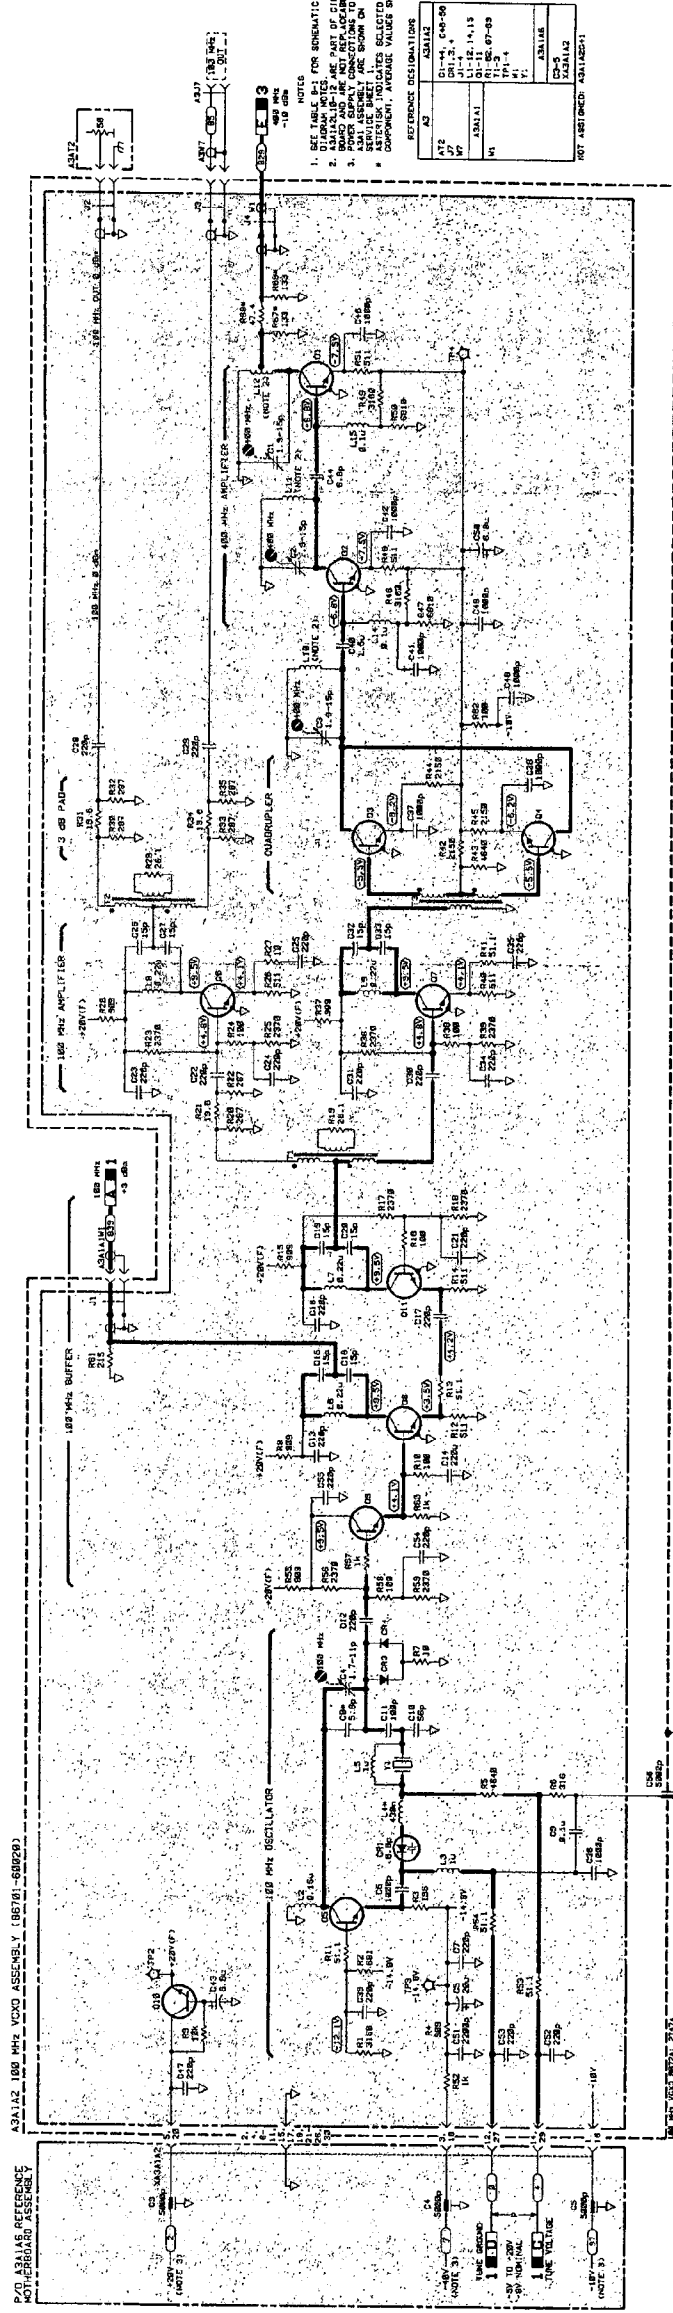

Figure 8-54. 100 MHz VCO Assembly 8-1978-198
- a. **Counting Operation and Control.** Refer to the schematic diagram, figure 8-54 and table 8-26. The N divider counter circuit includes the Programmable Down Counter (U6), the End-of-Count Decoder (U9A,B), the Count Control flip-flop (U4B), and the increment line, TP3.